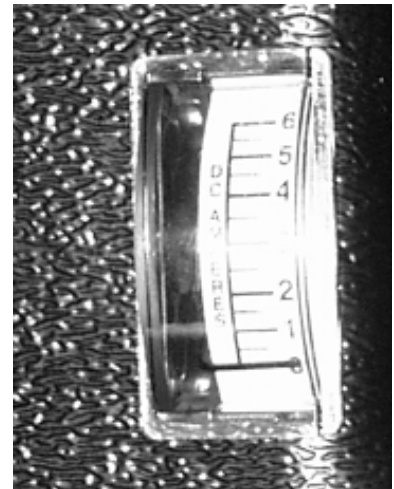

FIGURE 8. AMMETER
You can also use the ammeter to check your batteries' charge. The ammeter is located on the utility tray under the rear shroud. See figure 8. The amperage reading should be at or near zero (0) when the batteries are fully charged. The battery charger must be plugged into a wall outlet to obtain an ammeter reading.